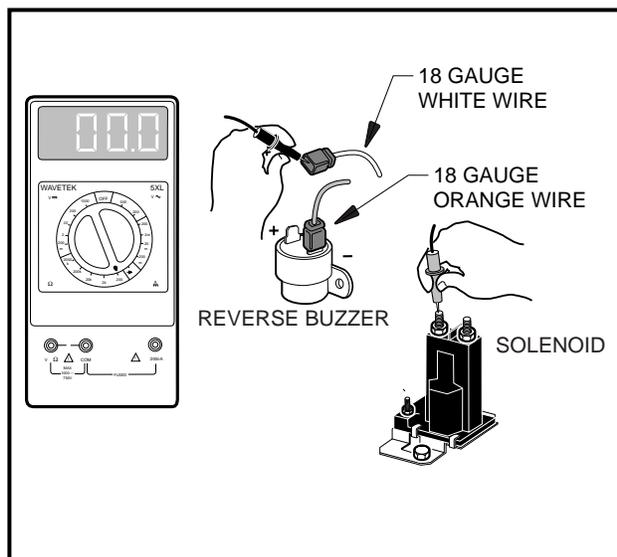

Figure 11-9 Reverse Buzzer Test - White Wire
4. Disconnect the 18 gauge white wire at the reverse buzzer. Place the red (+) probe of a multimeter (set to 200 Ω) on the large post of the solenoid (with the 6 gauge and the 18 gauge white wires attached), and place the black (-) probe on the terminal end of the 18 gauge white wire at the reverse buzzer. The reading should be continuity. If it is not, replace the 18 gauge white wire (**Figure 11-9, Page 11-9**).